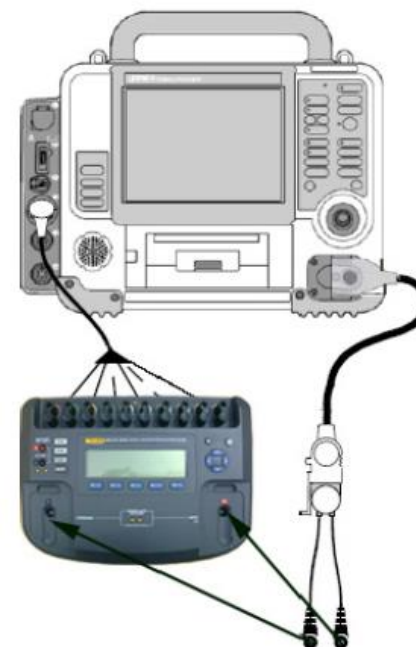

Figure 1.53—Pacer leads-off test setup
1. Establish the setup as shown in Figure 1.53.